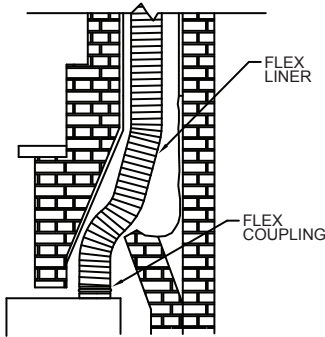

Figure 12
**Step 4.** After the Flex Liner is pulled through the damper area, attach the Flex Coupling to the end of the Flex with sheet metal screws, then connect it directly to the flue outlet on top of the gas fireplace (**Figure 12**).